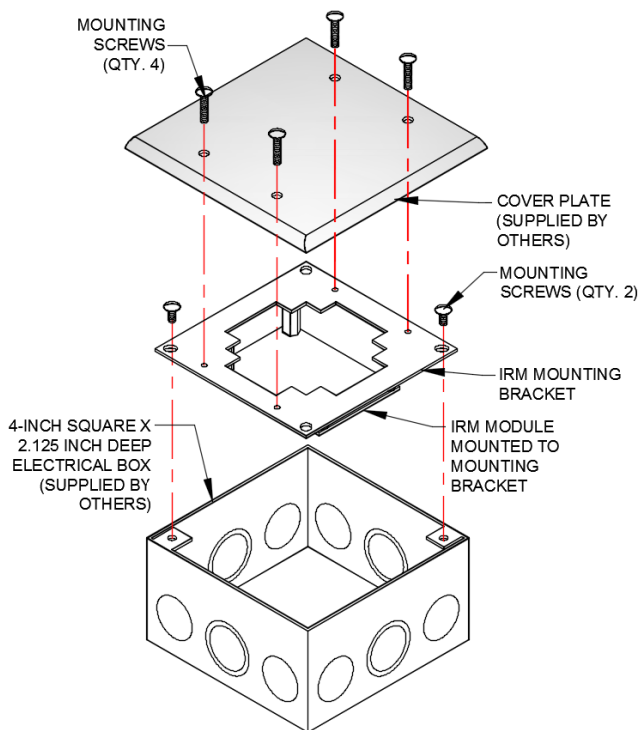

Figure 6 - IRM Installation
1. Secure the IRM bracket to the electrical box using the screws provided, as shown in Figure 6. Make sure wiring is not pinched or excessive strain is not placed on the IRM terminal block.
2. Install the blank cover plate (supplied by others) to the IRM mounting bracket using the screws provided with the plate, as shown in Figure 6.